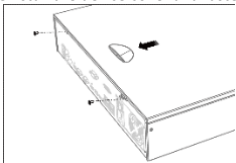

Figure 2-1 Remove Cover
**Step 1** Unfasten screws on the back, and push the cover backwards to remove the cover. Refer to Figure 2-1.